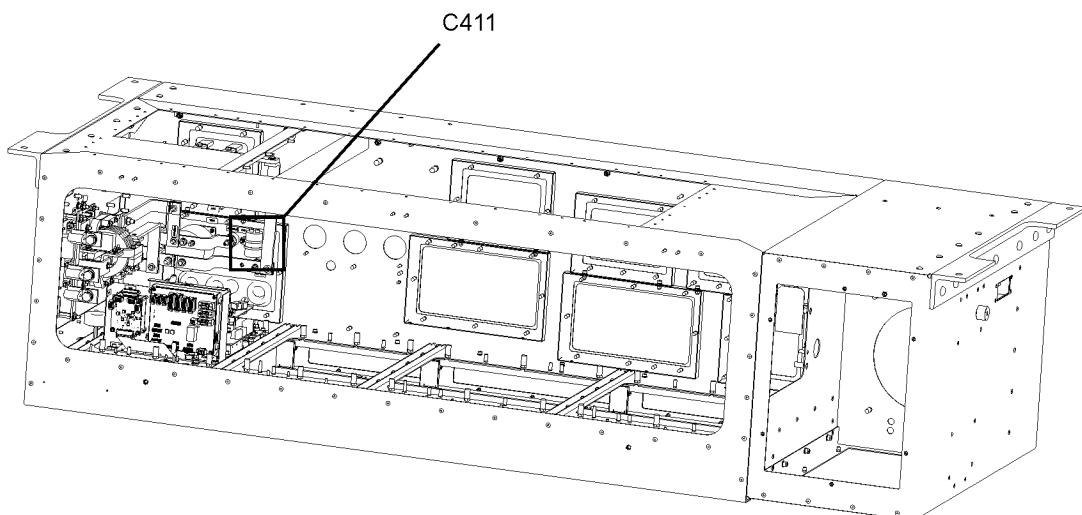

Figure 5-35: Location of C411
3. Locate C411. See Figure 5-35 for the location of the C411.